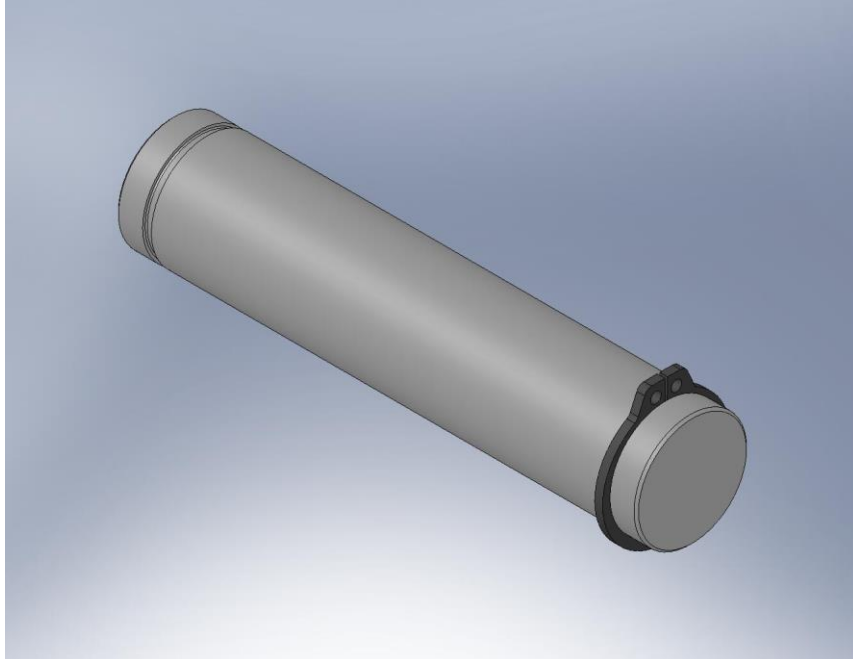

Figure 4.66. Place one retaining ring on each pivot pin now. After inserting through the rod ends, the other end of each pin will get a ring.
- Snap a 1/2" retaining ring (McMaster-Carr #91590A122) on one end of each of (2) 1/2" pivot pins (Misumi #U-SCDG0.50-L2.00), as shown in Figure 4.66.